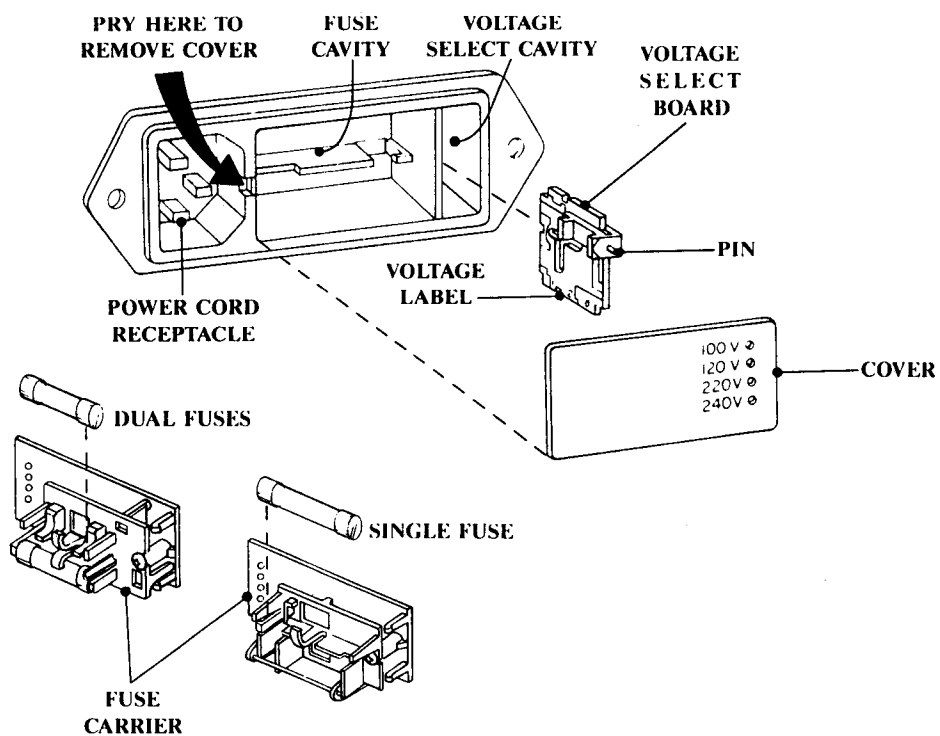

FIGURE 5-3. POWER ENTRY MODULE
2. Unplug the power cord from the ac wall outlet and from the power cord receptacle on the power entry module. See Figure 5-3.